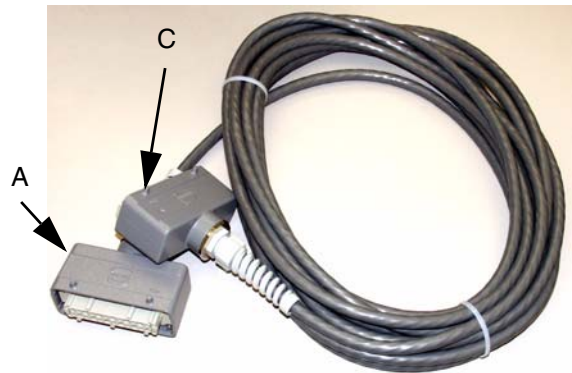
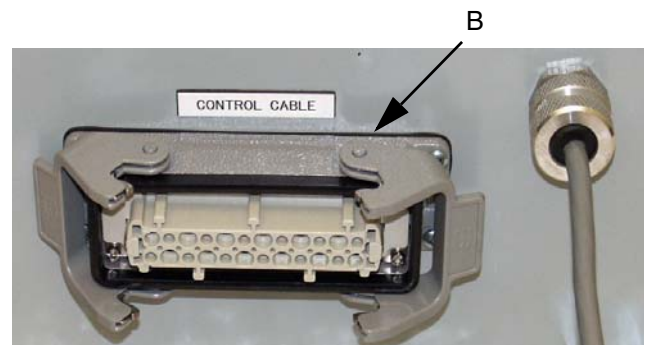

FIG. 10
FIG. 11
5. Connect plug (A) of the pump control cable (234956) to plug (B) on the side of the pump control box (202). See FIG. 10 and FIG. 11.
6. Connect plug (C) of the pump control cable (234956) to the pump function module box. See FIG. 10.